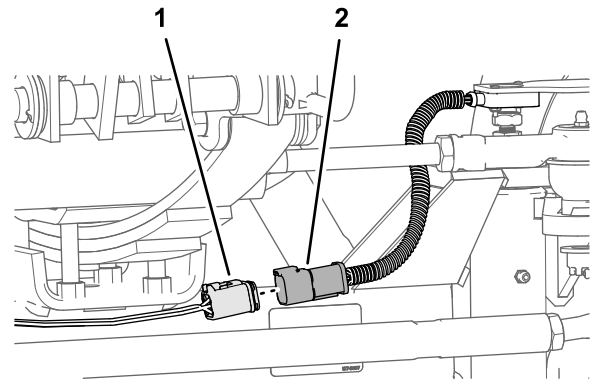

Figure 50
1. Plug the 6-pin connector of the angle-sensor harness into the 6-socket connector of the kit wire harness labeled WHEEL ANGLE SENSOR (Figure 50).